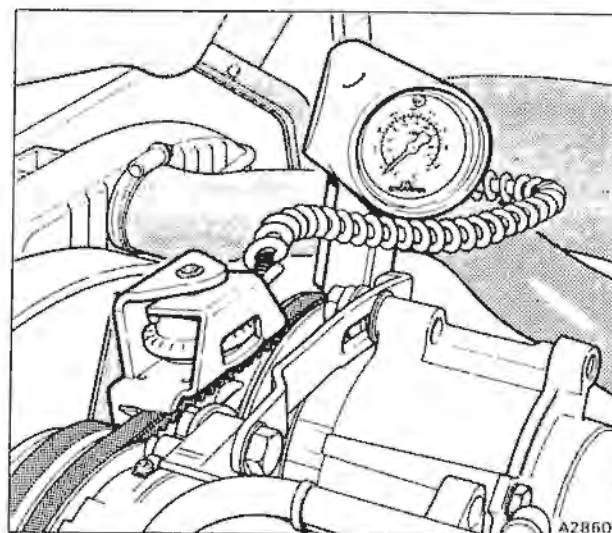

Fig. N5-2 Belt tension meter in position
The tension meter should be fitted close to the mid-point of the drive belt span, as shown in figure N5-2. The procedure for using the tension meter is as follows.
7. Position the clamping unit with the jaws open, onto the mid-point of the belt span as shown in figure N5-2. Release the clamping unit.